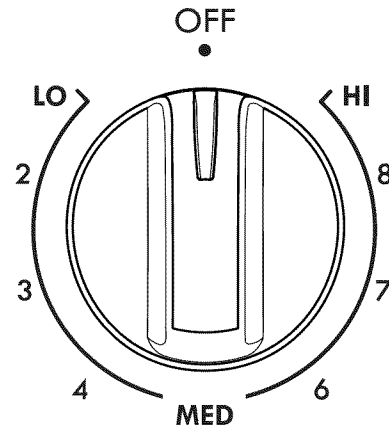

Figure 3: Single radiant element control
2. Push in and turn the surface control knob in either direction to the desired setting (Figure 3).